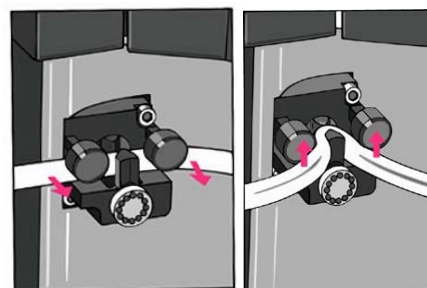

Figure 12
2. Remove the milk intake hose from the clamping valve by pulling both ends of the milk intake hose forward and lifting it up out of the bracket (see Fig. 12).